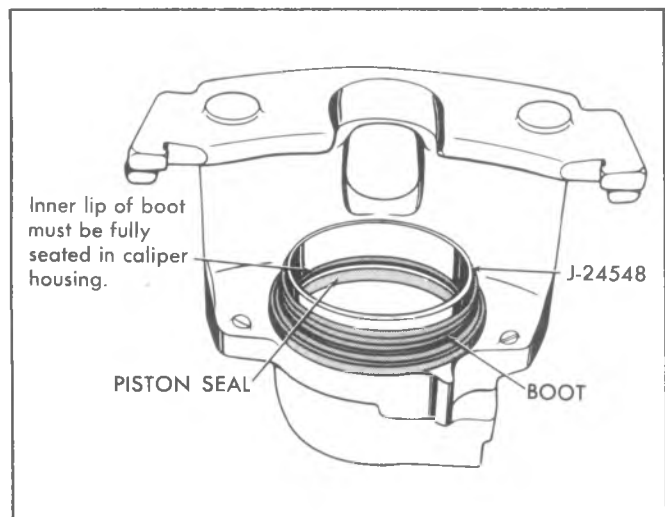

Fig. 5-40--Installing Caliper Piston Boot
2. Lubricate both sealing lips of the dust boot and the piston with a light film of clean brake fluid. Place the new boot over Piston Installer Tool J-24548. This is most easily accomplished by placing the boot large diameter over the tool first, then riding the smaller diameter onto the tool. The large diameter lip must then be slid off the tool to make ready for installation into the bore groove. Install the boot (large bead) into the piston bore groove by reaching inside of Tool J-24548 and pressing the boot bead into the groove (fig. 5-40).